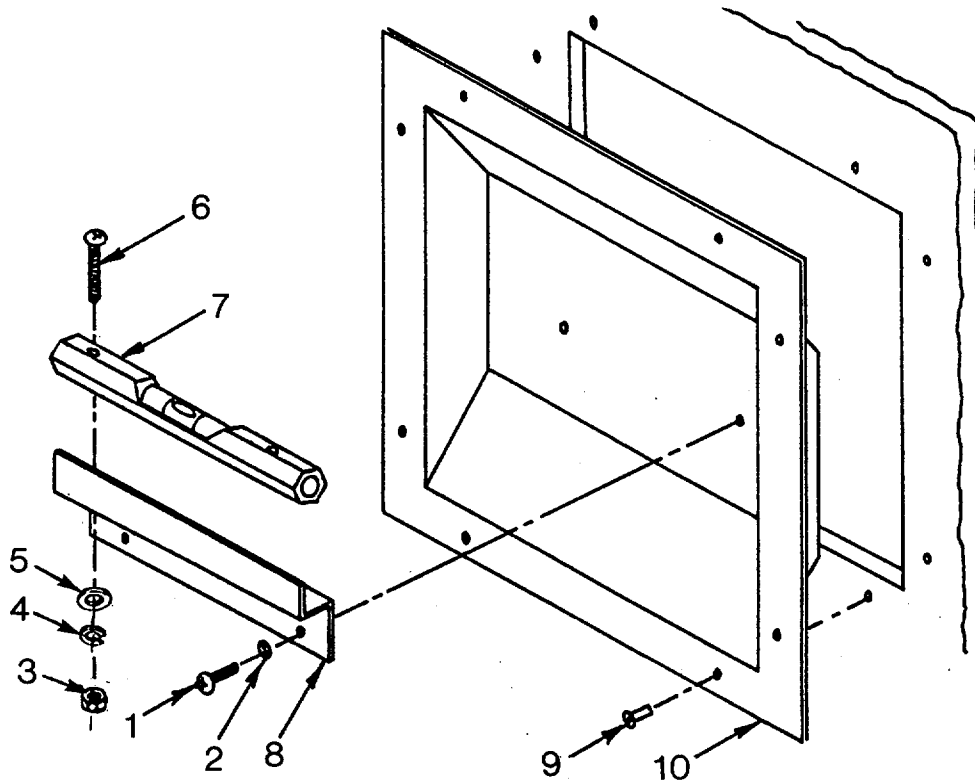

Figure 4-50. Level Indicator Assembly
b. Replace. (See Figure 4-50.)
(1) Remove screws (1), and lockwashers (2) from receptacle frame (10). Removal procedures are identical for both assemblies.
(2) Remove nuts (3), lockwashers (4), flat washers (5), screws (6), and level (7) from bracket (8).
(3) Remove rivets (9) from receptacle frame (10) by drilling or chiseling off heads.
(4) Remove RTV sealant and receptacle frame (10) from shelter wall.
b. Replace. - Continued. (See Figure 4-50.)
(5) Install receptacle frame (10) to shelter wall and secure with rivets (9). Installation procedures are identical for both assemblies. Seal between receptacle frame and shelter wall with RTV (3, Appendix E).
(6) Install level (7), screws (6), flat washers (5), lockwashers (4), and nuts (3) to bracket (8).
(7) Install level bracket (8), screws (1), and lockwashers (2) to receptacle frame (10).
c. Repair. (See Figure 4-50.)